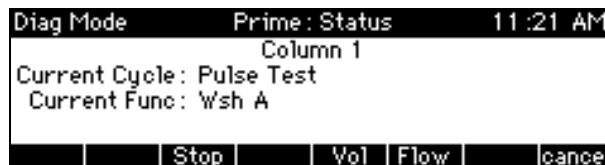

Figure 4-7 Diag Mode Prime Individual Screen
4. Select the reagent to test. Press More if the reagent you are testing is not displayed. The Diag Mode Prime Status screen is displayed (Figure 4-7).